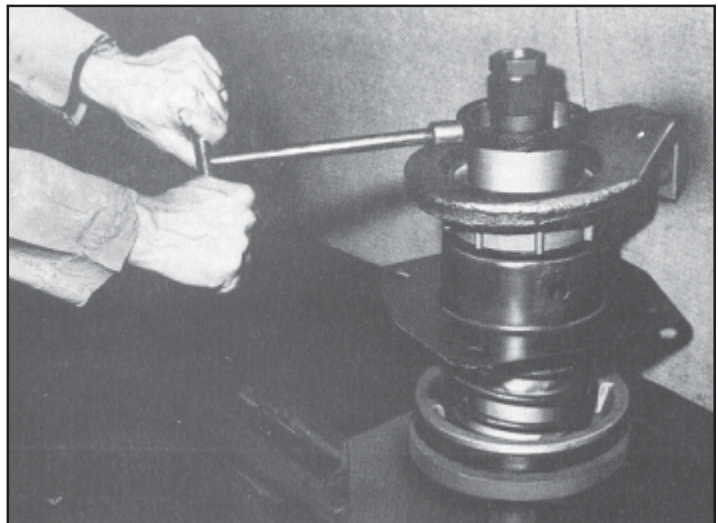

Figure 38
- (d) Place push rod holder (solid ring for early version type or split ring type) on end of hollow rod and secure in place with $\frac{5}{16}$ " x $\frac{7}{16}$ " self-locking set screws. Tighten set screw securely (See Fig. 38) and remove piston hollow rod assembly from holding fixture.